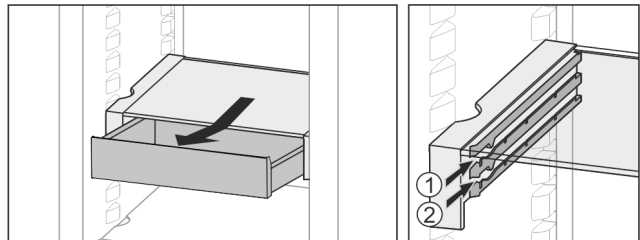

Fig. 25
- ▶ Slide back at the height you want Fig. 25 (1) or Fig. 25 (2).